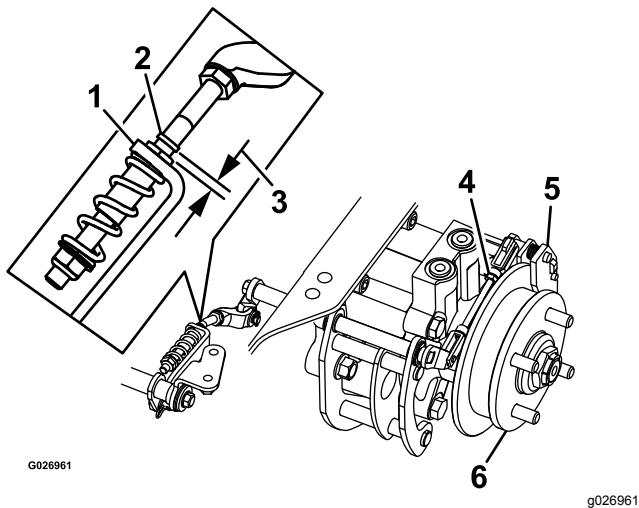

Figure 77
8. Check to see if there is a visible gap between the L-bracket and the linkage stop (Figure 77).